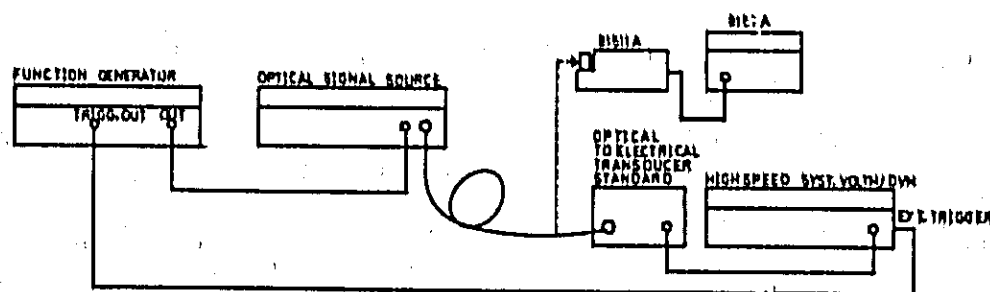

Figure 4-2. Test setup for Low Power Level measurements in +10 dBm range
6. Connect the Optical Signal Source, via the Transducer Standard, to the System Voltmeter as shown in Figure 4-2.